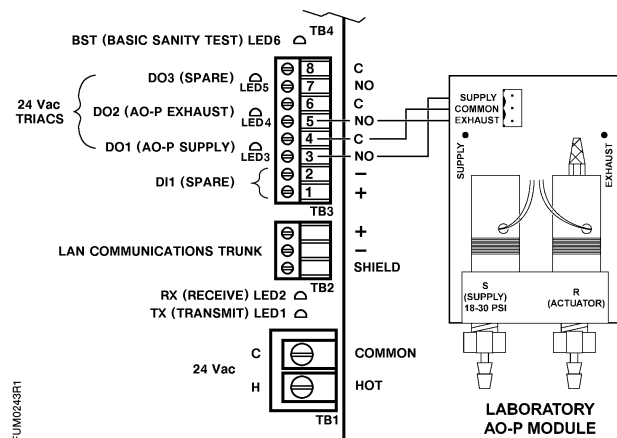
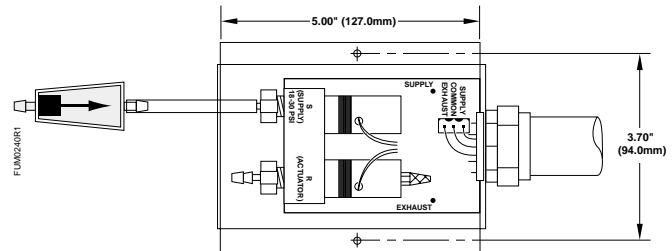

Figure 4. AO-P Wiring.
Figure 5. Conduit Wiring.
Using 3 conductor 20 AWG cable, connect the wire from the AO-P module to the Fume Hood Controller Board terminal block labeled TB3. Screw the wires into the provided terminal block to secure the wires. See Figure 4.
4. See *Section 3: General Wiring instructions*, and wire the connections. See Figure 4 and Figure 5. If the installation requires conduit, then mount a standard 1/2-inch conduit fitting to the enclosure and secure the conduit to the fitting.